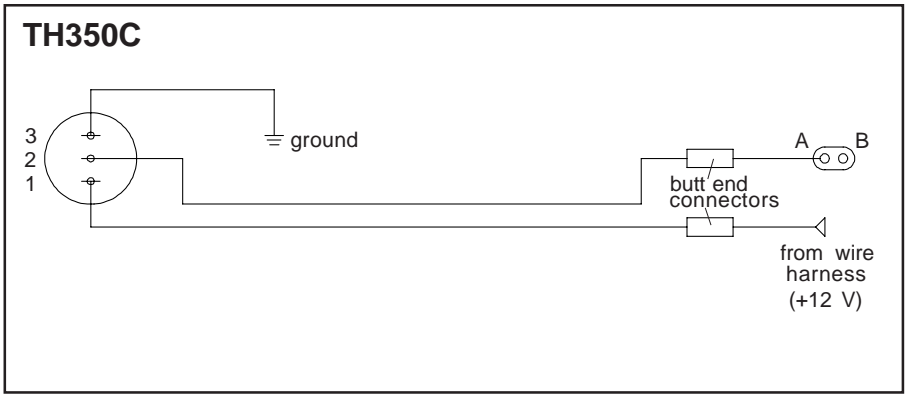

Figure 3
STEP 5. Onto the remaining wire install two spade connectors. Attach these connectors to the terminals marked #1 and #2 on the switch. If there is no existing hole in the firewall or floorboard of the vehicle, drill a 5/16" hole. Feed the two long wires through the supplied rubber grommet then through the 5/16" hole. Press the rubber grommet into place. Route wires to the transmission electrical connector. Cut the wires to length and connect them to the two butt connectors on the wire cut in step 2. **See Figure 3.** Make sure all wires are secured and properly connected.